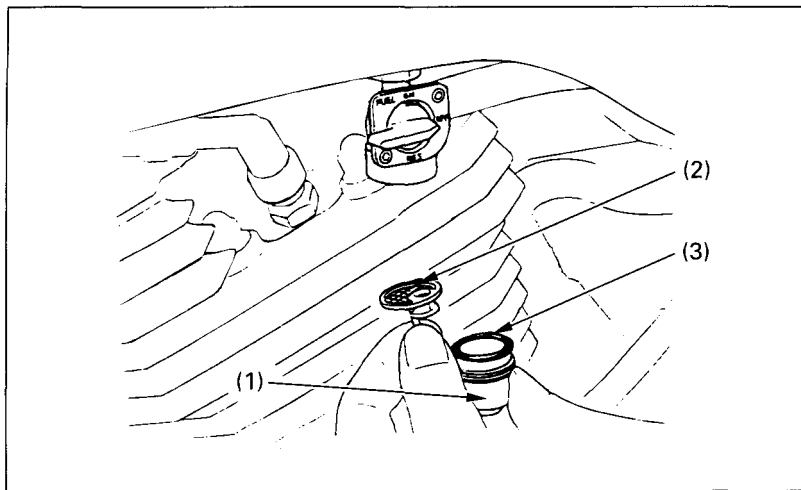

Fig. 4-3 (1) Fuel strainer cup (3) O-ring
The fuel strainer (Fig. 4-3) is in the fuel valve. The strainer has a fine mesh screen (2) which prevents dirt from entering the carburetor passages. Dirt which accumulates in the screen must be removed periodically, or the fuel flow will eventually be restricted.